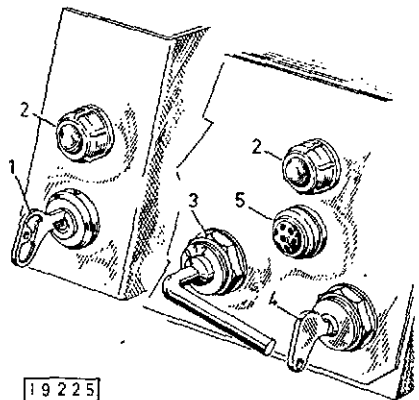

Fig. 4
3. Insert starter key 1 (Fig. 4), turn clockwise to first detent and check that charging pilot lamp 2 lights up. Push key in deeper and turn farther clockwise against spring pressure release key as engine starts firing.
2. Operate stopping lever 2 on the injection pump until the engine comes to a stop, whereafter the charging pilot lamp 2 (Fig. 4) will light up again.
3. Turn starter key 1 anti-clockwise to detent and pull out or, in the case of design with heater plug/starter switch, pull out switch box key 4; this will cause the charging pilot lamp 2 to go out.
3. Insert starter key 1 (Fig. 4), turn clockwise to first detent and check that charging pilot lamp 2 lights up. Push key in deeper and turn farther clockwise against spring pressure; release key as engine starts firing.
Pull start/stop lever vigorously beyond spring detent 3 to fixed stop until engine is stationary. When pulling start/stop lever slowly, there will again be a brisk speeding up of the engine before it comes to rest. This phenomenon is without importance; it can be moderated by a vigorous pull at the start/stop lever. Check that charging pilot lamp 2 (Fig. 4) lights up again.
1. Disengage driven equipment. 2. Place speed control lever at quarter speed in the case of engines with distributor injection pump, with speed control lever in idling position, pull start/stop lever to first indent (2/3) and hold. 3. Insert switch box key 4 (Fig. 4) as far as it will go and check that battery charge pilot light 2 (Fig. 4) goes on. Turn key of heater plug/starter switch 3 (Fig. 4) to preheating position I and keep here for about 1 minute. Where a flame-type heater plug is provided, check that heater plug indicator 5 (Fig. 4) lights up brightly.